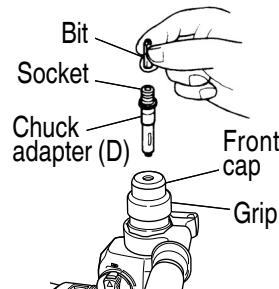

Fig. 25
4. When driving machine screws (Fig. 25)
5. When driving wood screws (Fig. 25)